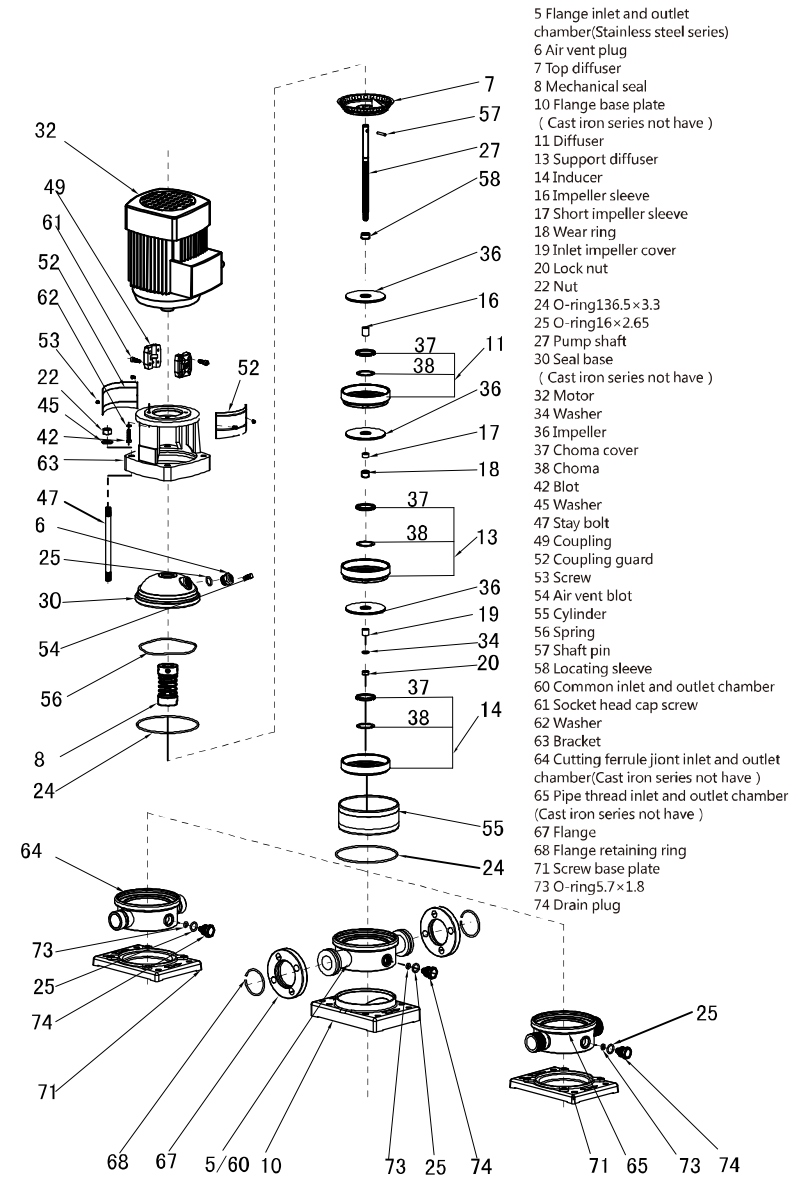

Fig 1-1 1/2/3/4
• The pump is mainly composed of motor, pump head, diffuser, impeller, cylinder, inlet & outlet chamber, pump shaft, mechanical seal and so on. Refer to Fig1-1, 1-2, 1-3, 1-4.